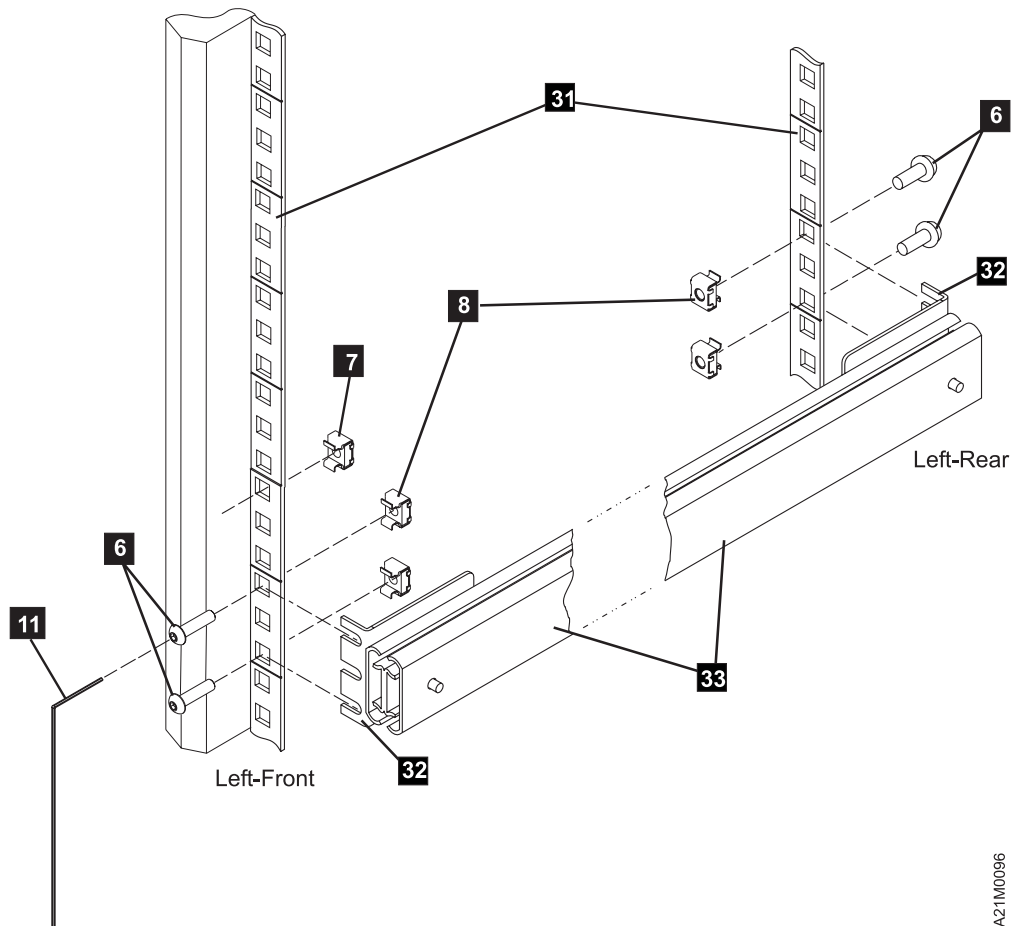
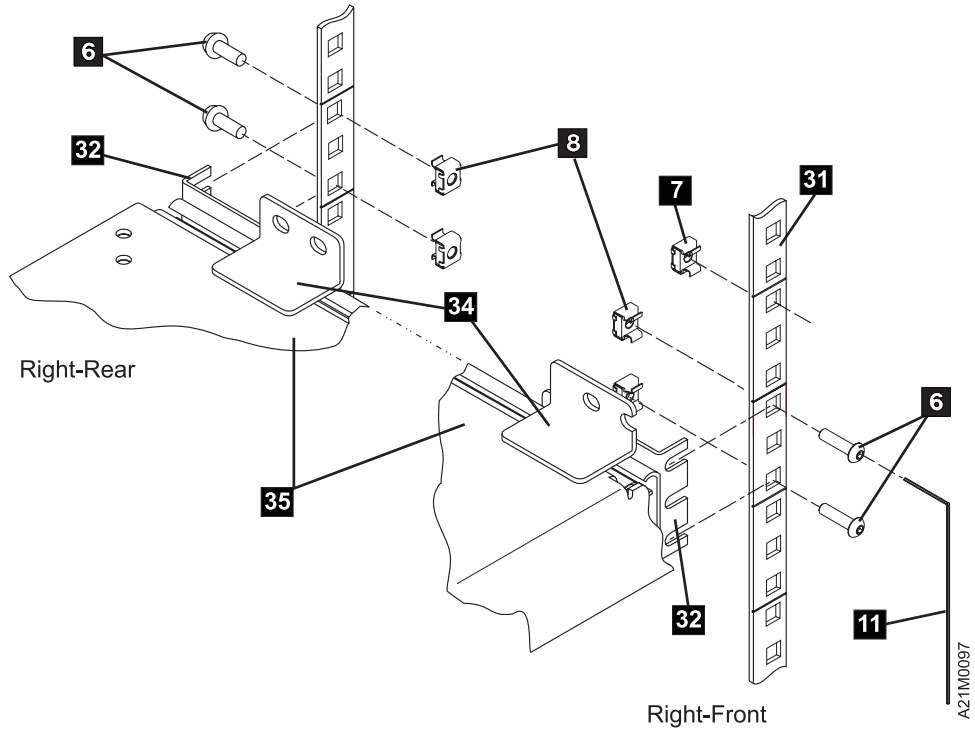

Figure 37. Attaching Left-Hand Slide and Bracket Assembly
Figure 38. Attaching Right-Hand Slide, Bracket, and Tray Assembly
- ___ Step 2. Determine in which rack location the 3570 will be installed; count six EIA units to accommodate for its height and mark the lower EIA units on the right and left sides in the front and rear of the rack. These EIA units identify the base upon which you will be developing your build. See Figure 37.
- ___ Step a. See Figure 37 on page 74 to install four M6 caged nuts **8** for the left side slide. Insert and leave the corresponding screws **6** loose.
- ___ Step b. See Figure 38 on page 76 to install four M6 caged nuts **8** for the right side slide. Insert and leave the corresponding screws **6** loose.
- ___ Step c. See Figure 37 on page 74 and Figure 38 on page 76 to insert one each M4 caged nuts **7** . These will be used to retain the 3570 from free sliding out of the rack.
- ___ Step 6. It is suggested that you have another person assist you in steps 6 through 8. Reference Figure 37 on page 74 and take the left-hand slide assembly **33** and, ensuring that the slide (the part without mounting brackets **32**) extends toward the front of the rack, install the assembly. It is necessary to lengthen the slide mounting brackets to correctly mount them to the outside of the rack EIA strip. To accomplish this, **do not** loosen the **front** mounting bracket screws. Adjustment must be made with the *rear* mounting bracket screws.
- ___ Step 8. See Figure 38 on page 76 to install the right-hand slide and tray assembly **35** .
- ___ Step a. Now, look back to Figure 38 on page 76 and securely tighten the front and rear right slide assembly screws **6**) onto the EIA strip.
- ___ Step 11. To secure (lock) the 3570 library into the rack, refer to Figure 37 on page 74 and Figure 38 on page 76. Open the front door of the 3570 library. On the right and left sides are offset brackets. (You may have to adjust the brackets to locate the bracket hole to the captured nut **7**.) Place two socket head screws **2** through the bracket and into the M4 caged nut **7**. Tighten the screws.